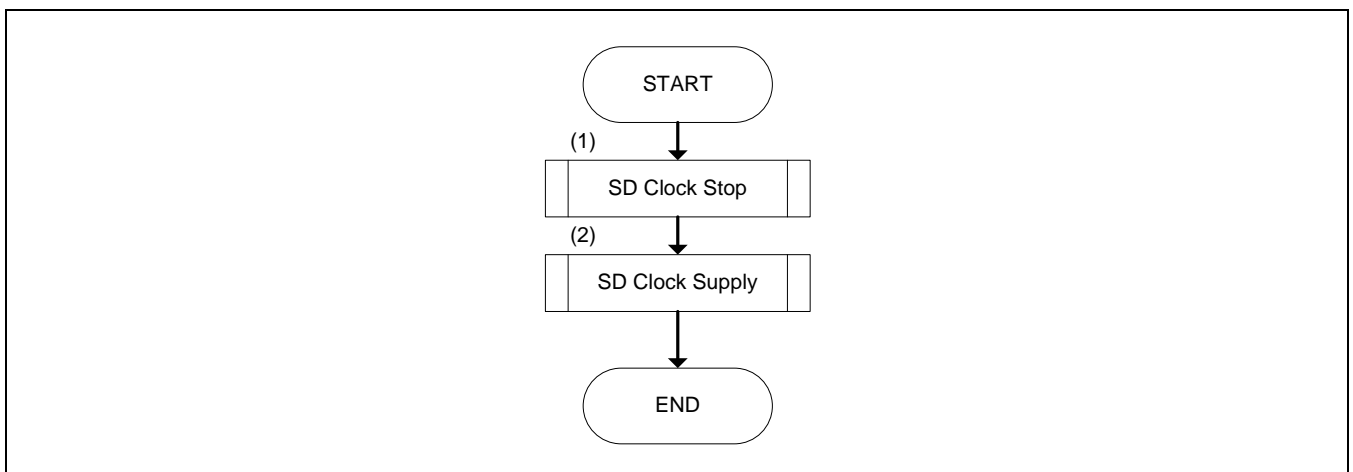

Figure 20-5. SD Clock Change Sequence
The sequence for changing SD Clock frequency is shown in Figure 20-5. When SD Clock is still off, step (1) is omitted.